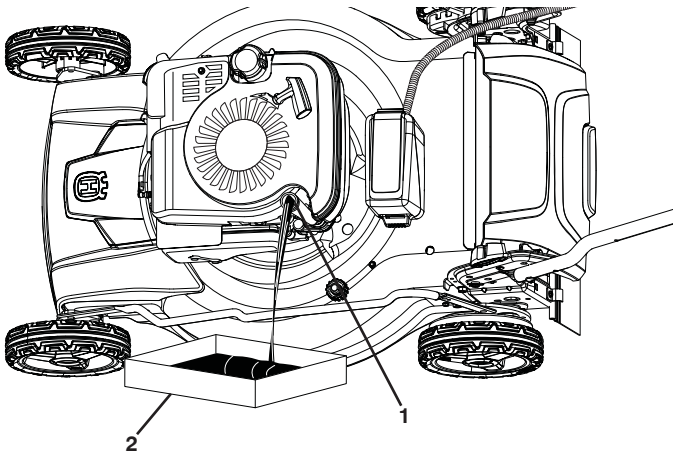

Figure 22
3. Tip lawn mower on its side as shown and drain oil into a suitable container. Rock lawn mower back and forth to remove any oil trapped inside of engine (Figure 22).